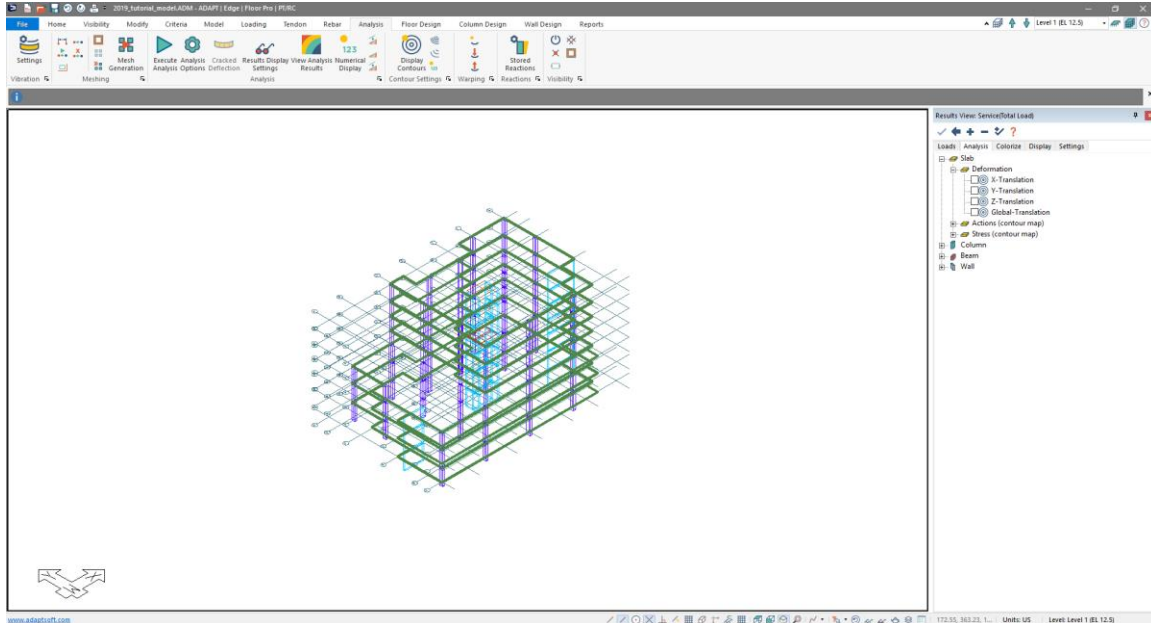

Figure 6-14
- Click on the *Top Front-Right View*  icon on the **Bottom Quick Access Toolbar**. The user should now see the view as shown in **FIGURE 6-14**.